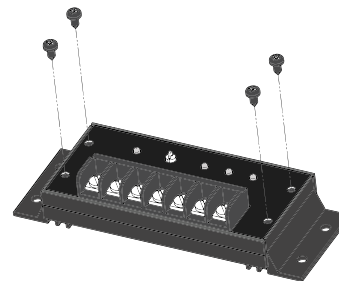

Figure 2b. Remove faceplate screws.
1. Remove all four screws that secure the faceplate on the SunSaver. See Figure 2b.